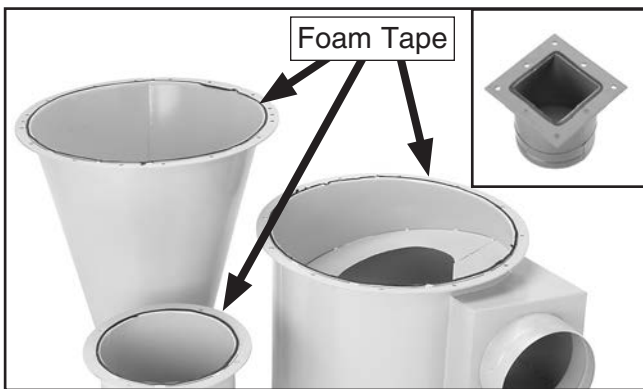

Figure 7. Foam seal tape applied to necessary components.
- Apply foam seal tape on intake barrel, intake cylinder, cyclone barrel, and outlet port, as shown in **Figure 7**.